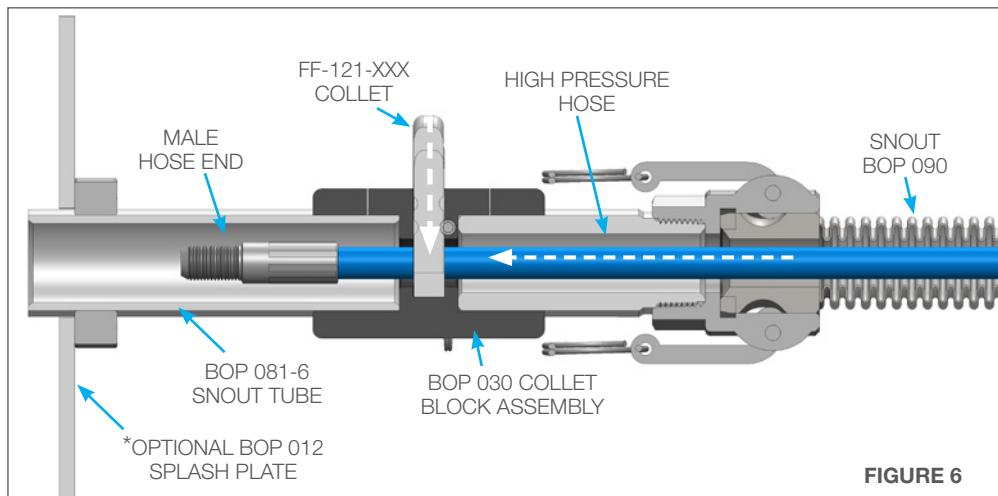

FIGURE 6
6. Remove the Quick Release Pin and the Collet from the Collet Block Assembly. Push the Male Hose End past the Collet and reinsert the Collet and Quick Release Pin. Test the collet by pulling the hose in the reverse direction of installation to ensure the Male Hose End does not back out past the Collet. (**Figure 6**)
6. Remove the Quick Release Pin and the Collet from the Collet Block Assembly. Push the Male Hose End past the Collet and reinsert the Collet and Quick Release Pin. Pull back on the hose to ensure the Male Hose End does not back out past the Collet. (**Figure 6**)